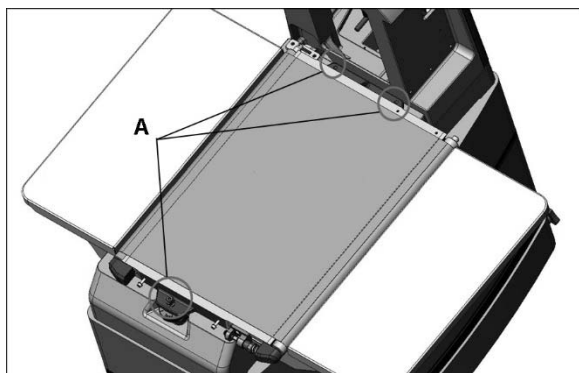

Figure 21
4. Remove the three screws (A, Figure 21) holding conveyor table to sander base.